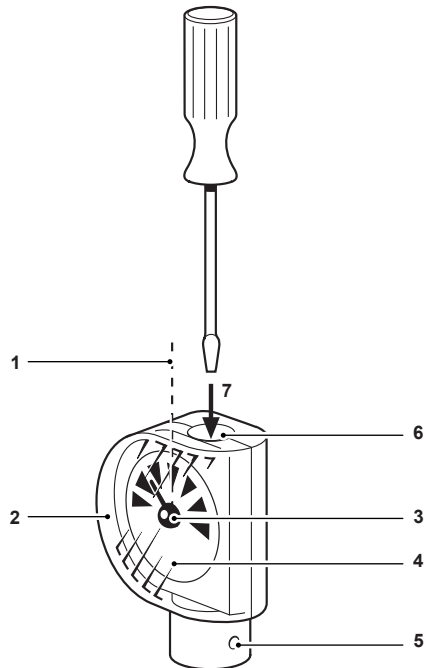
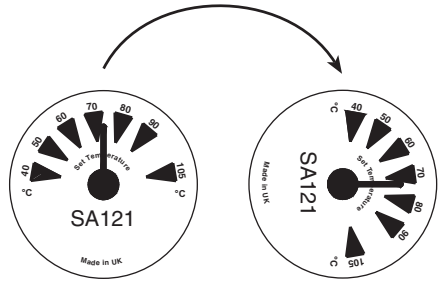
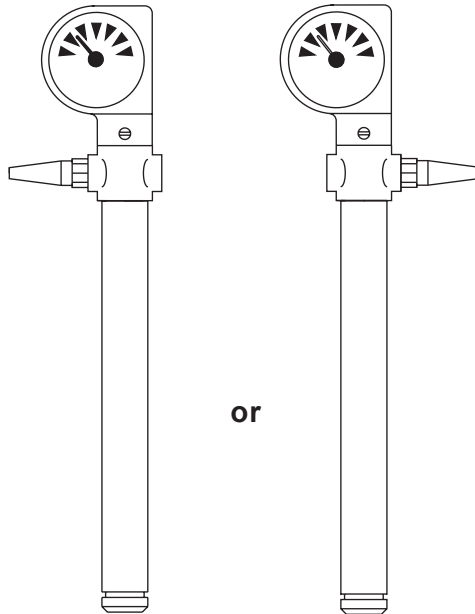

Fig. 2b
Fig. 4
Fig. 5
In some instances it may be necessary to rotate the scale to make the set temperature more easily read. In such cases the following procedure should be adopted making reference to Figure 2b and Figure 4 except where stated:
1. Remove the tamper-proof plug (6) and use a suitable screwdriver to set the indicator (3) to the midway point (1).
2. Remove the transparent cover (2).
3. Remove the indicator (3).
4. Remove the scale (4) from the indicator and relocate to the desired position i.e. Figure 4.
5. Replace the indicator (3) to the midway point of the scale (1).
6. Replace the transparent cover (2).
The dial head itself may be rotated through 180 ° if necessary. In such cases the following procedure should be adopted making reference to Figure 2b and Figure 5 except where stated:
4. Remove the dial head retaining screws (5).
5. Rotate the indicator through 180 ° (Figure 5).
6. Replace the dial head retaining screws (5).